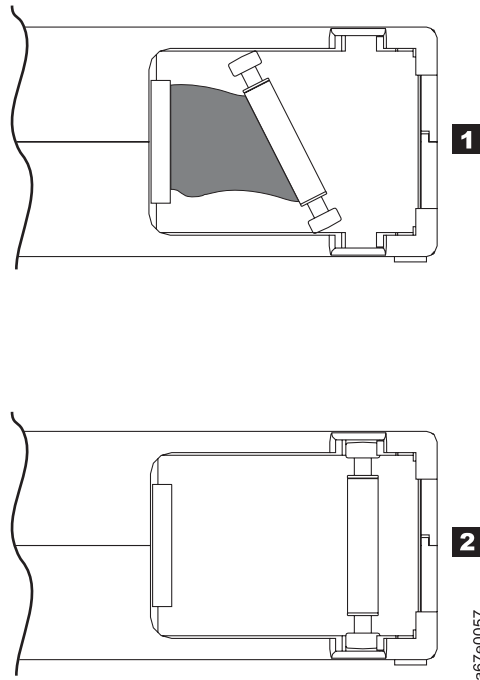

Figure 5-8. Leader pin in the incorrect and correct positions. The cartridge door is open and the leader pin is visible inside the cartridge.
- Check that the leader pin is properly seated (see **2** in Figure 5-8 on page 5-12).
- Do not drop the cartridge. If the cartridge drops, slide the cartridge door back and ensure that the leader pin is properly seated in the pin-retaining spring clips (see **2** in Figure 5-8 on page 5-12). If the leader pin has become dislodged, go to “Repositioning or Reattaching a Leader Pin” on page 5-11.
Example: Improper Placement of Leader Pin (see Figure 5-8 on page 5-12)
A leader pin that is improperly seated inside a cartridge can interfere with the operation of the drive. Figure 5-8 on page 5-12 shows a leader pin in the incorrect **1** and correct **2** positions.